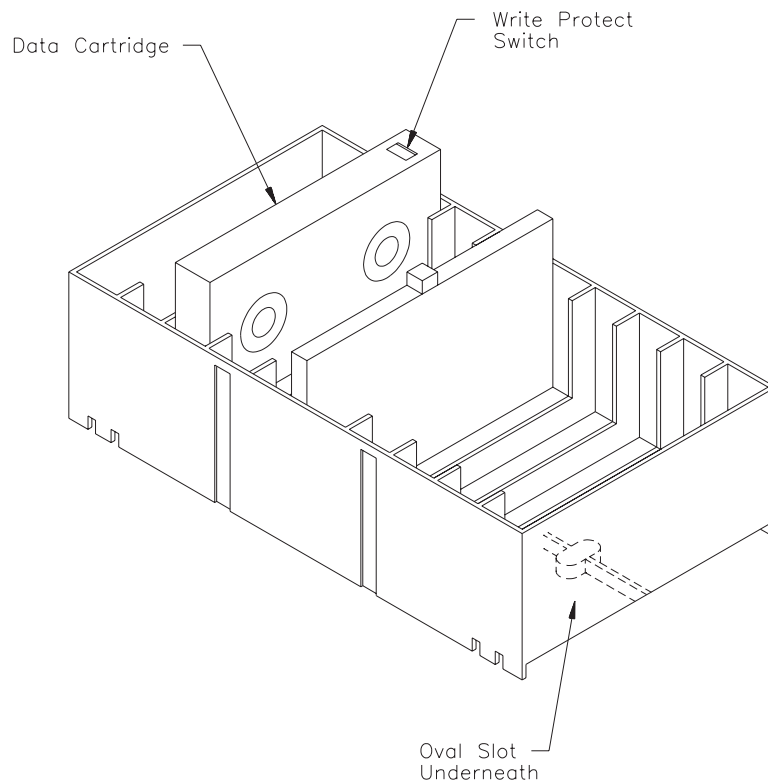

Figure 3-3 Inserting a data cartridge in the data cartridge holder
2. Place the cartridge holder on its back as shown in Figure 3-3. The end closest to the oval slot on the back of the cartridge holder should be toward you.
Note: If desired, you can insert the data cartridges in the cartridge holder after you install the cartridge holder in the EXB-10i. To do this, hold the data cartridge so that the write protect switch is facing you and oriented to your right. Then, insert the data cartridge into the cartridge holder until it snaps into place. Figure 3-3 shows the correct positioning of the data cartridge in the cartridge holder.
2. Position the cartridge holder on the mounting plate inside the EXB-10i so that the oval slot and alignment pin are interlocked. (See Figure 3-3 for the location of the oval slot.)